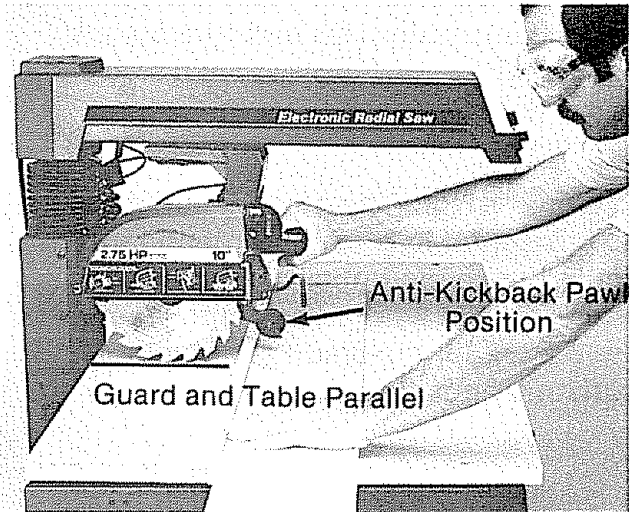

Fig. 110 Crosscut Blade Guard and Body Position
**WARNING:** To reduce the risk of contact with the upper half of the blade and keep the workpiece from jamming in the guard, set the blade guard in the horizontal position. Fig. 110.
▲ WARNING: The blade guard must be horizontal to provide protection from contact with the upper half of the blade and avoid the workpiece being jammed in the blade. Set the blade guard in the horizontal position. Fig. 110.